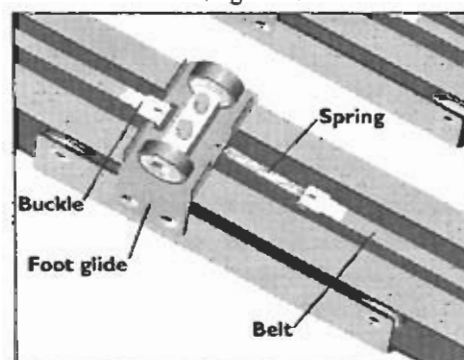

Figure 9
2. Grasp the foot glide. Use your other hand to push the buckle toward the foot glide until the belt can be disconnected (Figure 9).